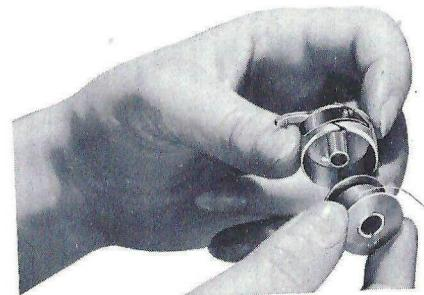

Fig. 14
a. With left hand, hold bobbin case between thumb and forefinger in such a way that the slot in the edge of the bobbin case is on top and its open side faces to right, as shown in Fig. 14.
b. Hold bobbin between thumb and forefinger of right hand, so that thread on top leads from left to right, as shown in Fig. 14.